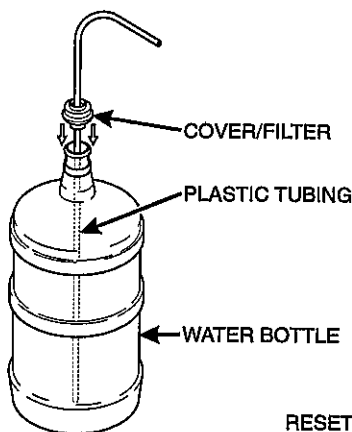

FIGURE 1
#### INSTALLING A NEW WATER BOTTLE (See figure 1.)
3. Remove the four screws holding the pump cover to the pump body (see figure 1).